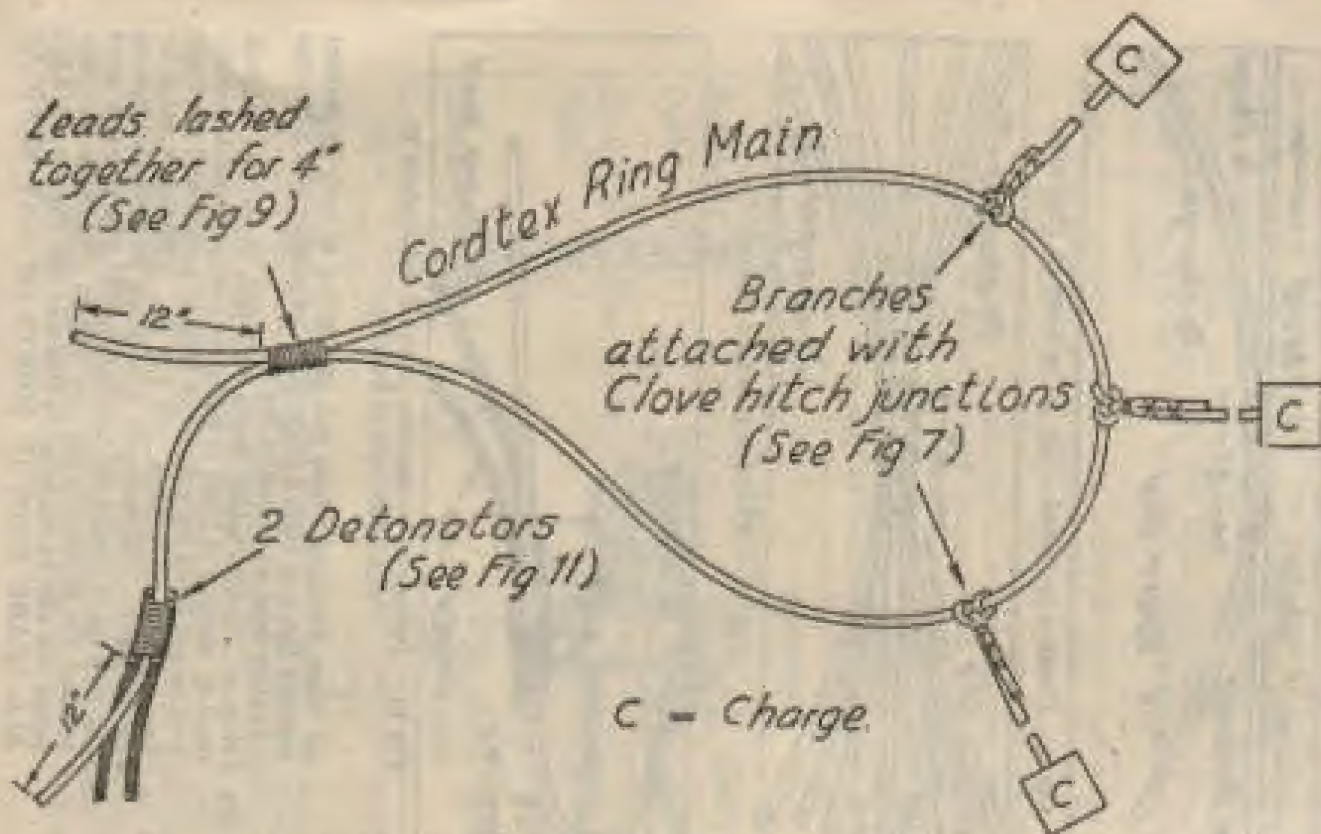

Fig 12. Simple cordtex or primacord ring main
- (e) *Ring mains.*—This most efficient method of firing more than one charge simultaneously is by the use of a ring main made up with detonating fuse (see Fig 12). The main is initiated with two detonators and two lengths of safety fuse as already described.